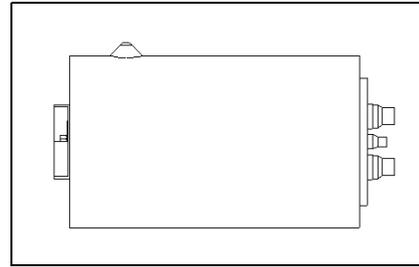

Figure 2. Item 5
3. Remove the evaporator splash panel (D) and control box cover (E) (FIGURE 2).